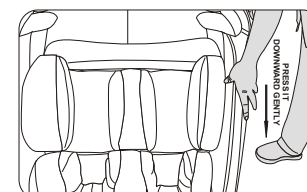

Figure 6
- Gently push the armrest down, double check if the hook well locked. (figure 6)